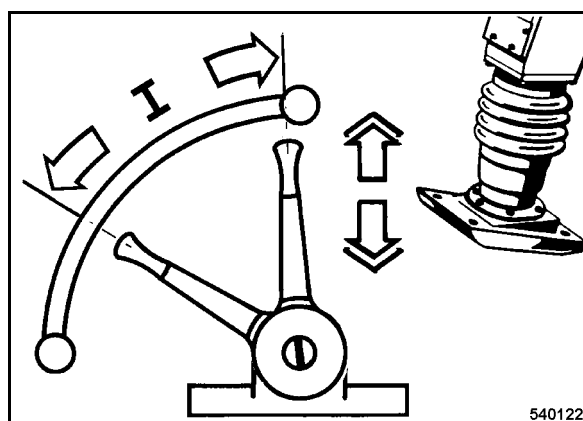

Fig. 18
- In order to achieve a smooth running of the machine adjust the throttle lever in the range I (Fig. 18), depending on the condition and the density of the soil.